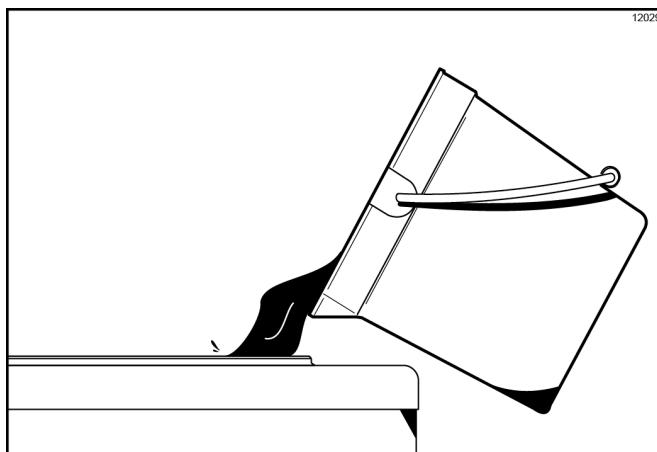

Figure-99
1. Pour 2 gal. (7.6 L) of cool, clean water into the shake mix hopper. With the white hopper brush, scrub the mix hopper, mix-level sensing probes, and the outside of the agitator driveshaft housing. Using the double-ended brush, brush-clean the mix inlet hole. (See Figure-99)